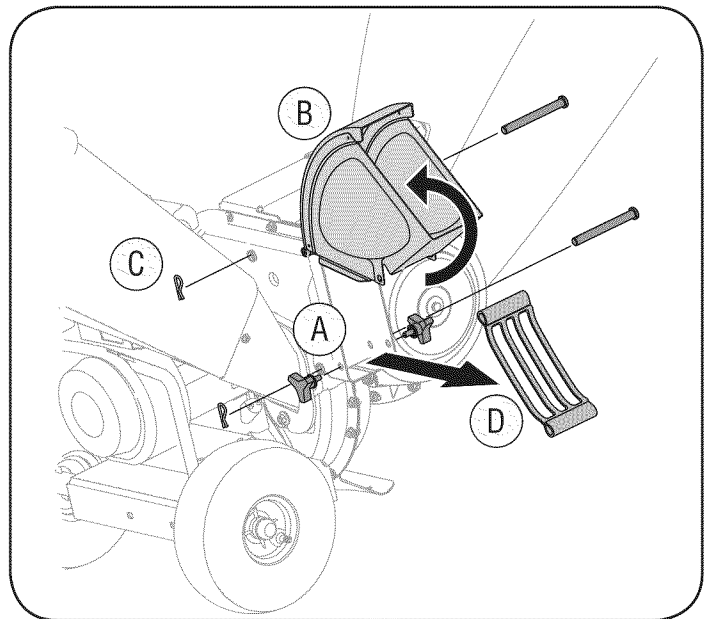

Figure 14
3. A. Remove the bag and two wing knobs on each side of the chute deflector. See Figure 14.
- D. Remove the shredder screen from inside the housing and clean the screen by scraping or washing with water. See Fig. 14.